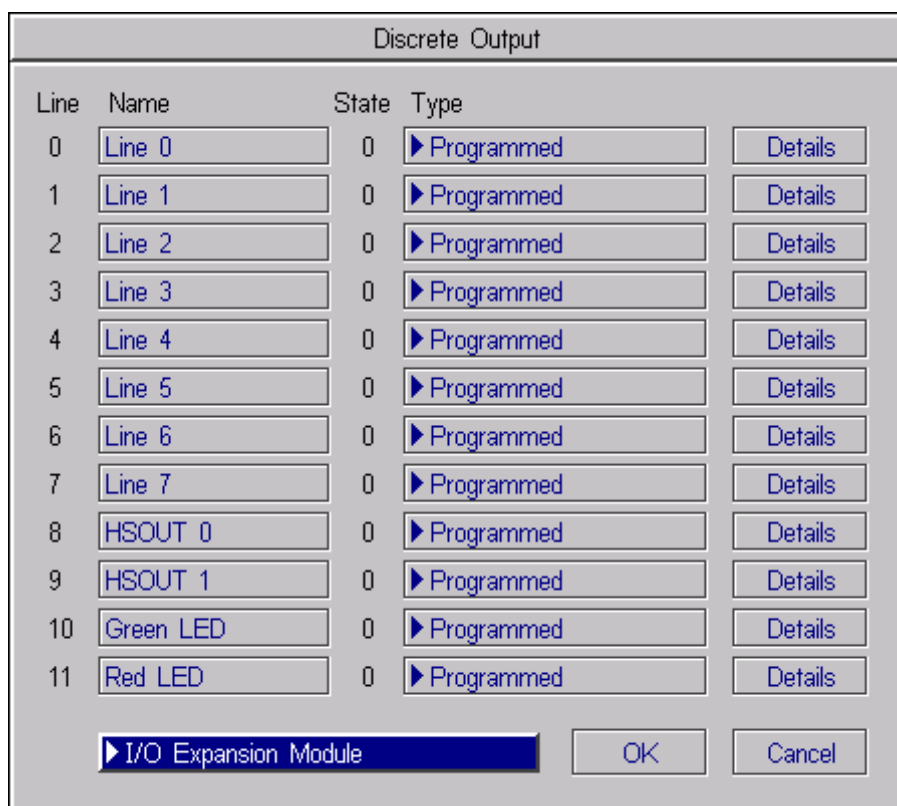

Figure B-4: Discrete Output Dialog, I/O Expansion Configuration (In-Sight PC Host)
- Open the drop-down list to the left of the OK button and select I/O Expansion Module. The Discrete Output dialog will automatically reconfigure to correspond to the I/O Expansion Module, as shown in Figure B-4.